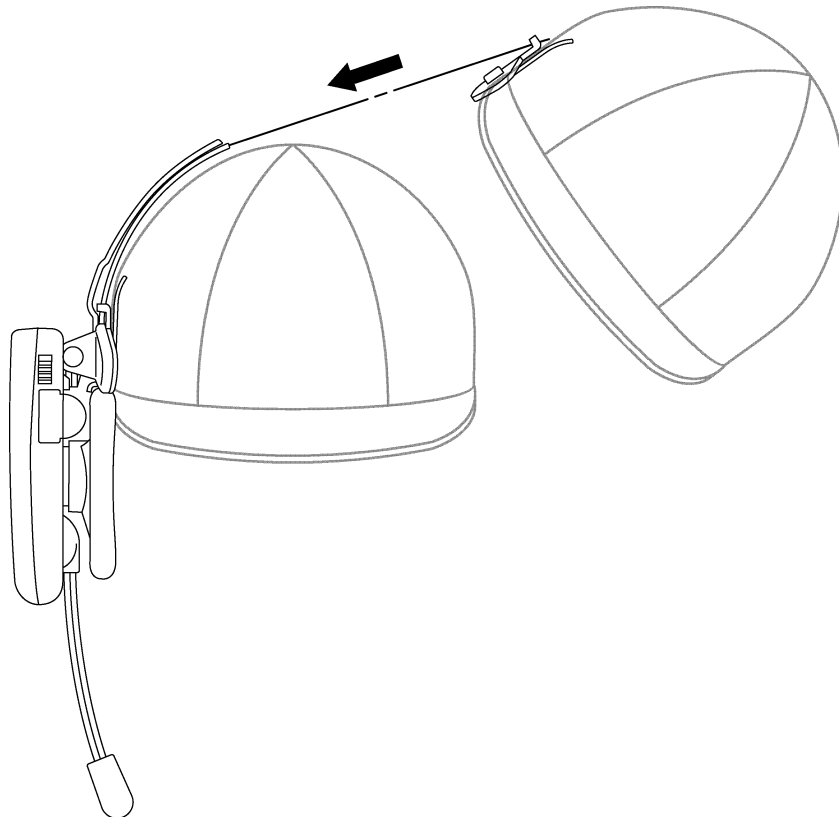

Figure 12.
5. Slide the cap clip over the inside half of the adjustable headband until it snaps into position over the headband pad mount. See Figure 12.